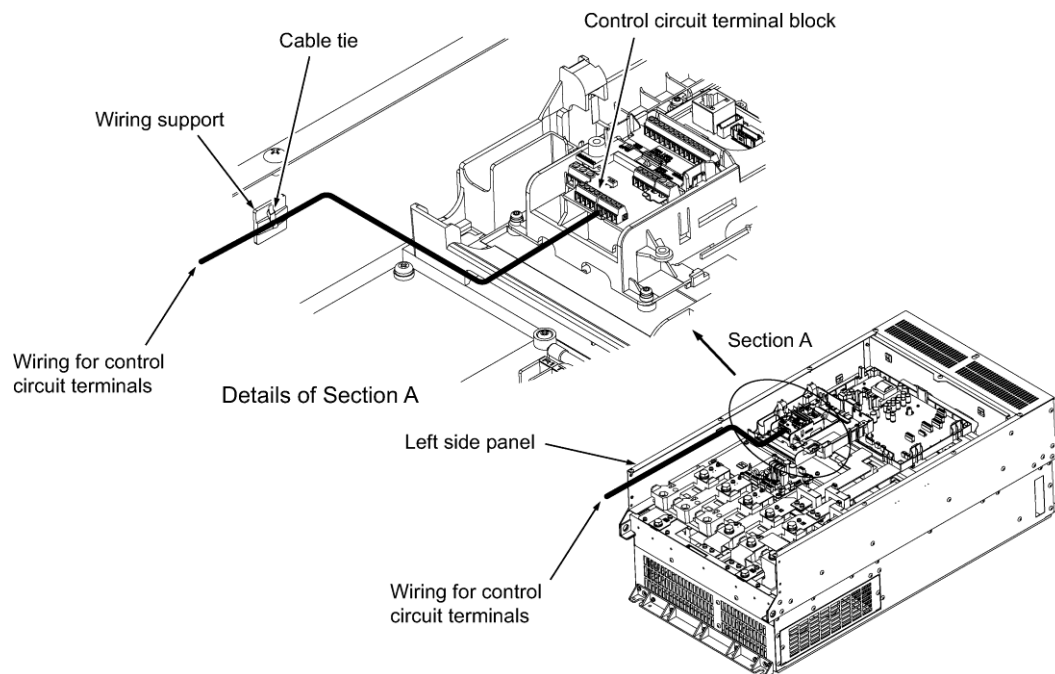

Figure 2.2-14 Wiring Route and Fixing Position for the Control Circuit Wires
- (1) As shown in Figure 2.2-14, route the control circuit wires along the left side panel to the outside of the inverter.
- (2) Secure those wires to the wiring support, using a cable tie (e.g., Insulok) with 3.8 mm (0.15 inch) or less in width and 1.5 mm (0.06 inch) or less in thickness.